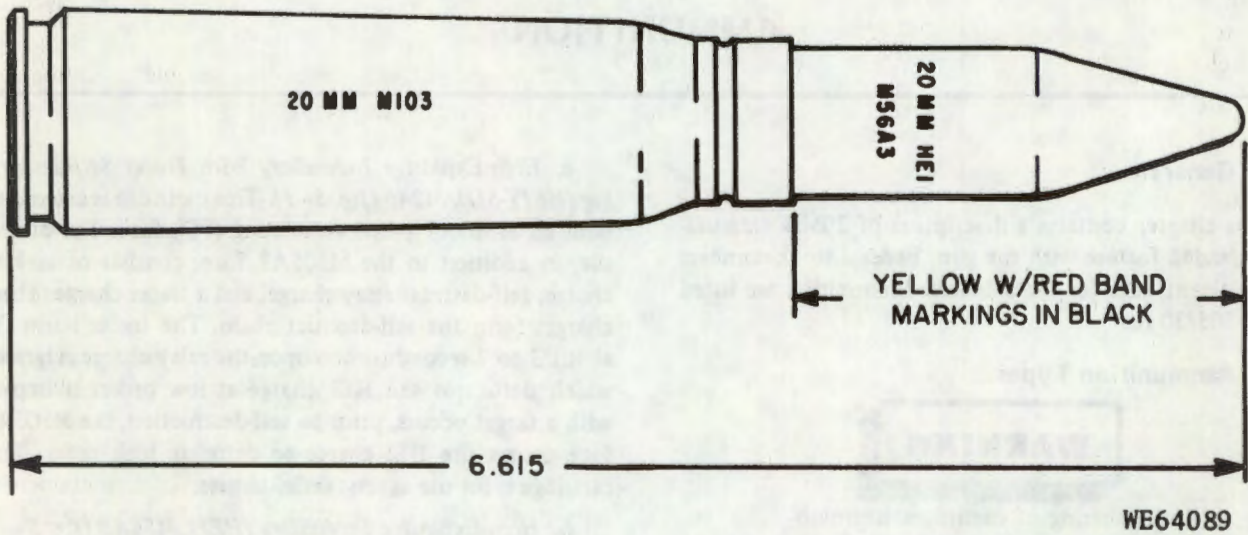

Figure 5-2. Marking of high-explosive, incendiary (HEI) M56A3 cartridge.
b. *High-Explosive Incendiary (HEI), M56A3 (fig. 5-2).* This cartridge is for use against ground targets, including lightly armored vehicles, functioning with both explosive and incendiary effect. The projectile consists of an HEI charge and is assembled with the M505A3 fuze. The M505A3 fuze is a point-detonating, single-action fuze intended to function on impact with the target.